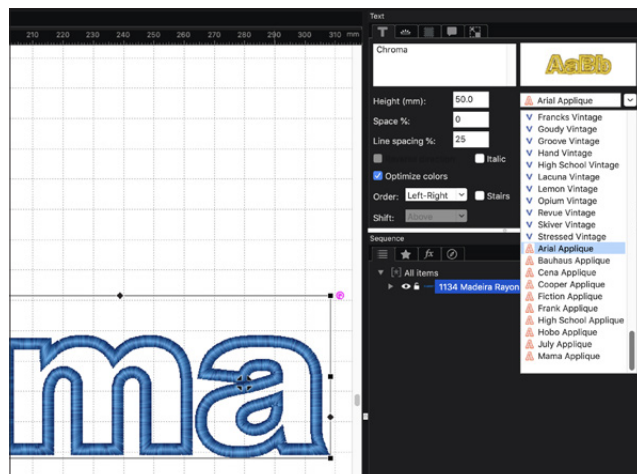

Figure 72
2. Then, select an appliqué specific font. This will automatically outline your text with the Satin stitch. **See Figure 72.**